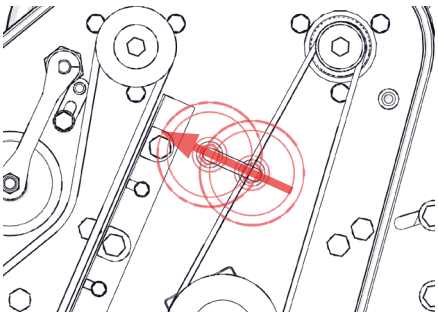

Fig. 13H - Loosen the tensioner pulley.
- i. If re-tensioning only, skip to step iii. Loosen the tensioner pulley [9/16" spanner] (Fig. 13H).